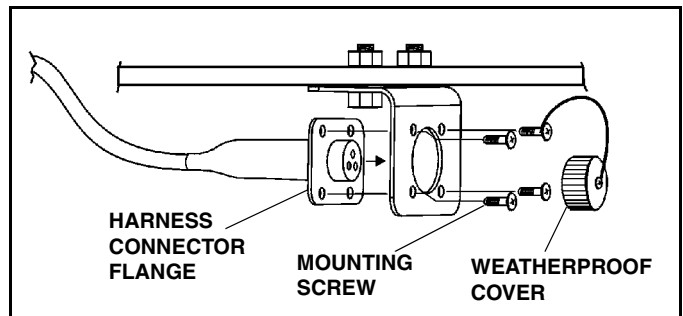

Figure 1-4
3. Install four screws through bracket into harness connector flange and tighten. One of the screws will also fasten the strap for the weatherproof cover. (See Figure 1-4).